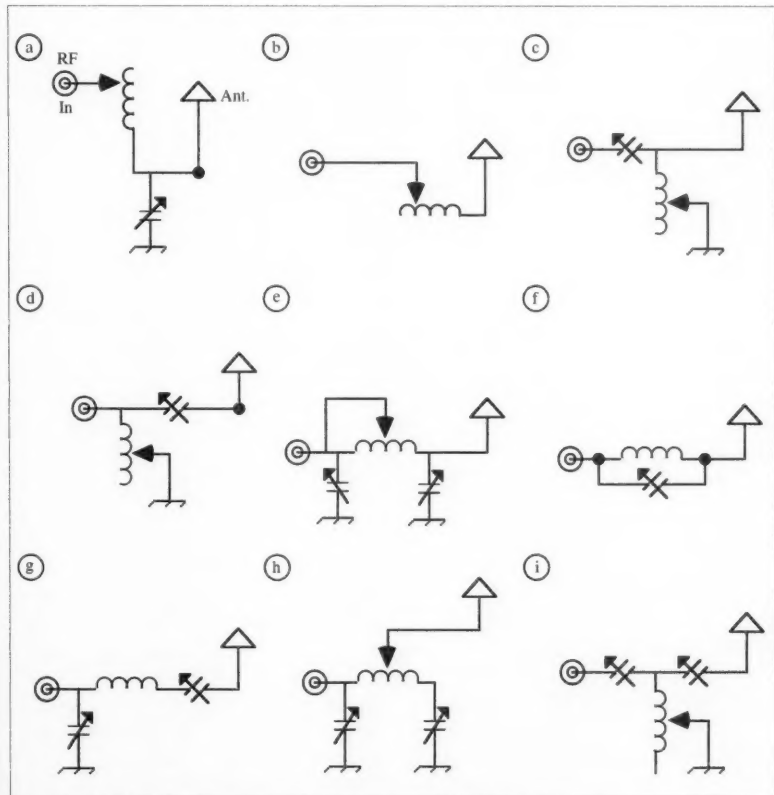

Fig. 1. Possible coil/capacitor combinations for antenna matching.
**Fig. 1** shows that there are plenty of matching options at your disposal to achieve that elusive 1:1 SWR. With that firmly in mind, a quick hookup technique gives you great flexibility, and minimal timewasting, moving components in and out of a circuit to test the various configurations. The goal is maximum signal radiation coinciding with the lowest standing wave ratio with the least expenditure of effort—the most gain with the least pain!
1500 pF, borrowed from an old linear, worked well. I also used a moderately-spaced dual-gang variable (150/150 pF) for the second unit. This component can be paralleled for increased capacitance (with jumpers, of course), or left as two independent units for wiring up Fig. 1(i).